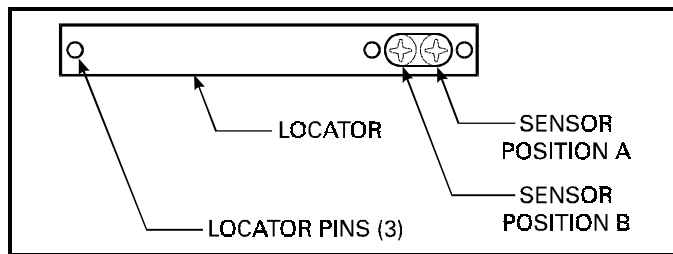

Figure 7.4 Locator
Brady materials require only two distinct upper media sensor positions. These two positions are shown as position A and position B in Figure 7.4.
2. Place the locator on the sensor guide plate so that the three locator pins (see Figure 7.4) fit securely in the sensor guide plate slot. Make sure the locator slot is positioned to the inside of the printer near the printer fire wall.
- Press the MODE key to print a Media and Sensor Profile and save the new values. (See Figure 7.4.)